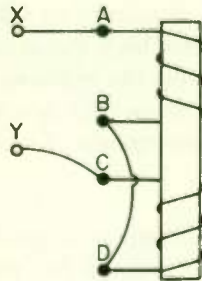

Fig. 33
2. See Fig. 33 . . . Assume a voltage applied to the windings at terminals *X* and *Y*. Then, by using the left-hand rule, determine what the direction of the magnetic fields will be. In order to obtain maximum inductance, the magnetic fields must aid.